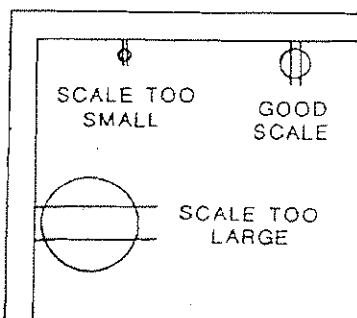

Fig. 6 Good symbol proportions are important for architectural working drawings
3. Symbols are not drawn to the exact size of the actual item. The general size of the architectural symbols will vary with the scale of the drawing. The symbol should be of convenient reading size. It should not be too small or large (Fig. 6 ).